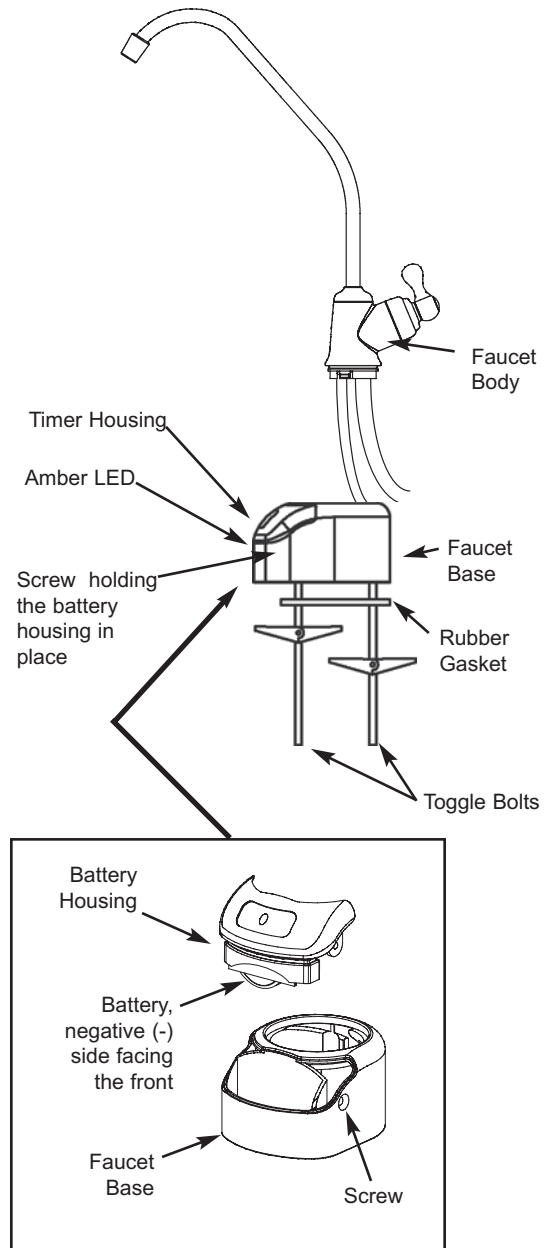

FIG. 14
1. Locate and organize your RO faucet install parts. Refer to Fig. 14.
2. Press the battery housing upward from the front faucet base until it releases from the faucet base. See Fig. 14.
5. Re-install the battery housing and firmly tighten the mounting screw. See Fig. 14.